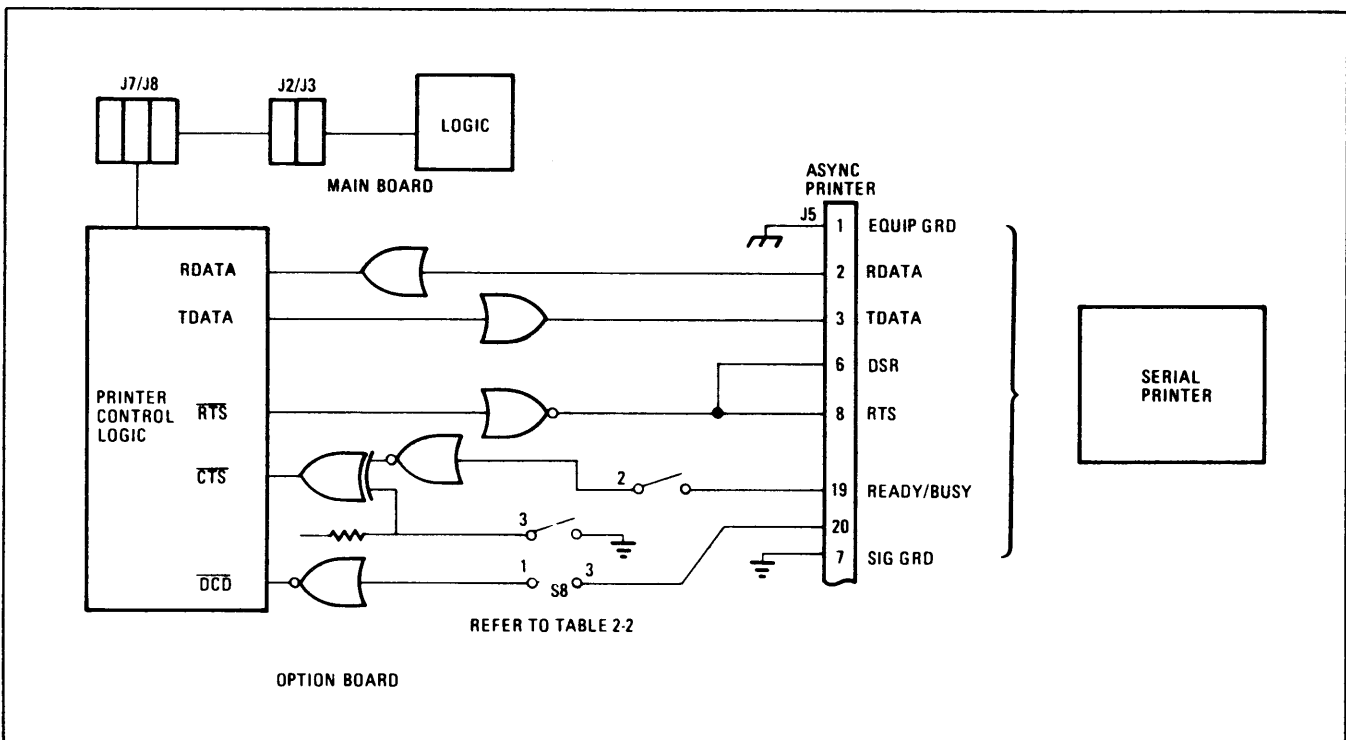

Figure 2-10. Printer Interface Logic
The PRINTER port is used to connect the ADM 42 directly to an asynchronous serial printer. **Figure 2-10** shows the logic associated with this interface. The option logic board must be installed in addition to the main board. Refer to **tables 2-1** and **2-2** for the settings of DIP switches on the main board and option board respectively, required to enable the PRINTER interface.
1. The Printer Interface and the READY BUSY control lines are enabled as appropriate for the application (see figure 2-10 and table 2-2).